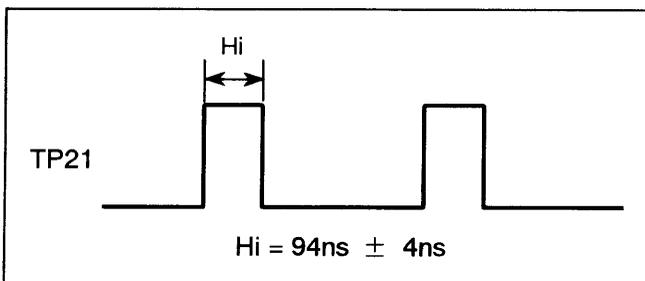

Figure 3
3. Adjust VR16 so that the high period of TP21 becomes 94ns ± 4ns as shown in Figure 3.